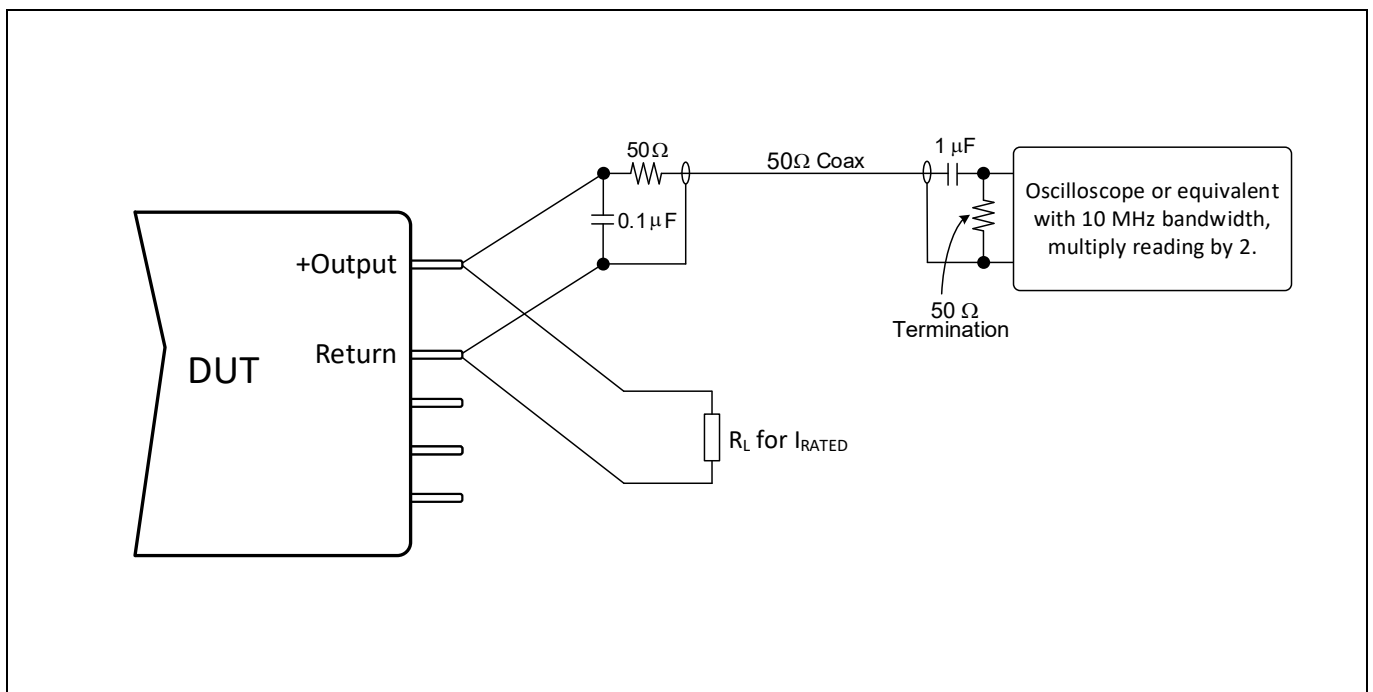

Figure 1 Circuit for measuring Output Ripple Voltage
6. Guaranteed for a DC to 20MHz bandwidth. Tested using a 20kHz to 10MHz bandwidth. using the circuit shown in Figure 1.